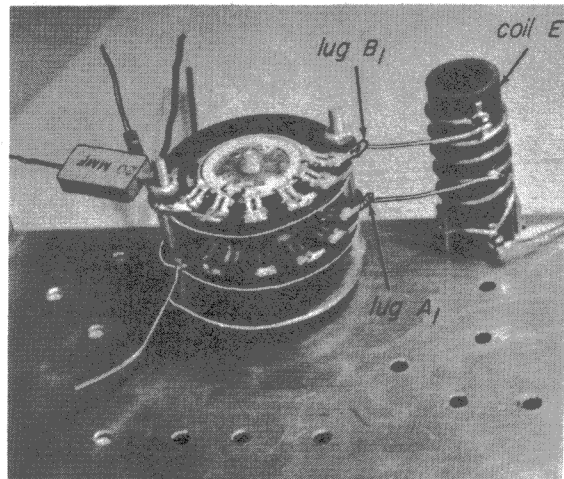

Fig. 21-6
Step 1. Mount coil E with its terminals pointing toward the far side of the plate as shown in Fig. 21-6. Use two #6 lock washers and two 6-32 nuts. Connect the wire from terminal 1 of coil E to bandswitch lug B₁. Connect the wire from the tap on coil E to
switch lug A₁. Solder both connections. Your plate should now look like Fig. 21-6.